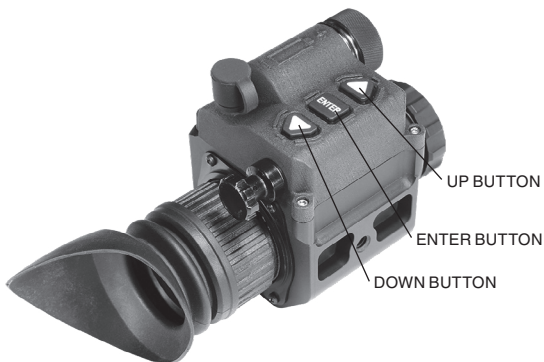

FIGURE 3.2. OPERATIONAL BUTTONS OF OTS-X
3. Press the “Up” and “Down” (Figure 3.2.) arrow buttons simultaneously, as show in the photo above. The Video image will now be able to be viewed through the OTS-X eyepiece and the monitor at the same time.